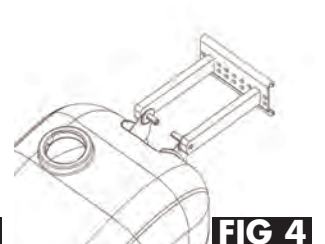

FIG 4
3. Hang fuel tank on wall with No. 5818-2 Fuel Tank Mount sliding into mounting lip of No. 5818-1 Wall Bracket. (FIG 4) Verify that mounting lips of wall mount and tank mount mate completely before letting go of fuel tank. If in doubt, have a helper assist you in hanging and removing fuel tank from wall. (FIG 5) Carefully lower fuel tank into resting position. Allowing the fuel tank to fall into wall may result in paint or sheet metal damage. (FIG 6)